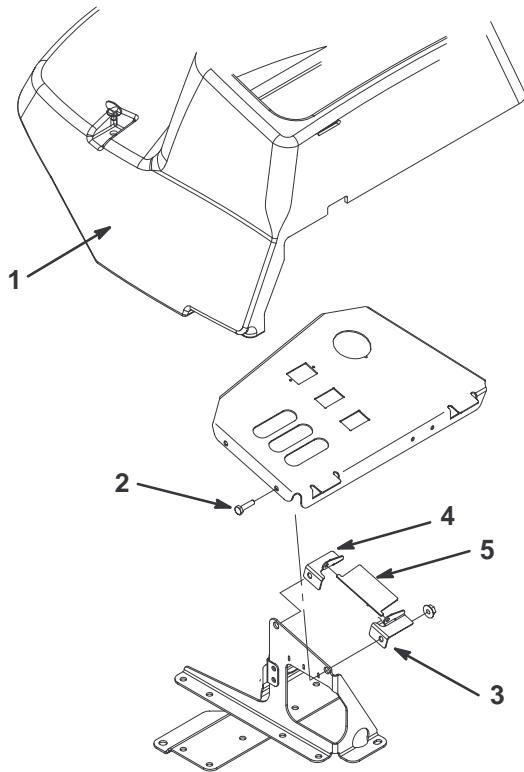

**Figure 1**
- Slide throttle stop onto high idle stop screw (Fig. 1). Slot in throttle stop to be positioned over rib on engine.